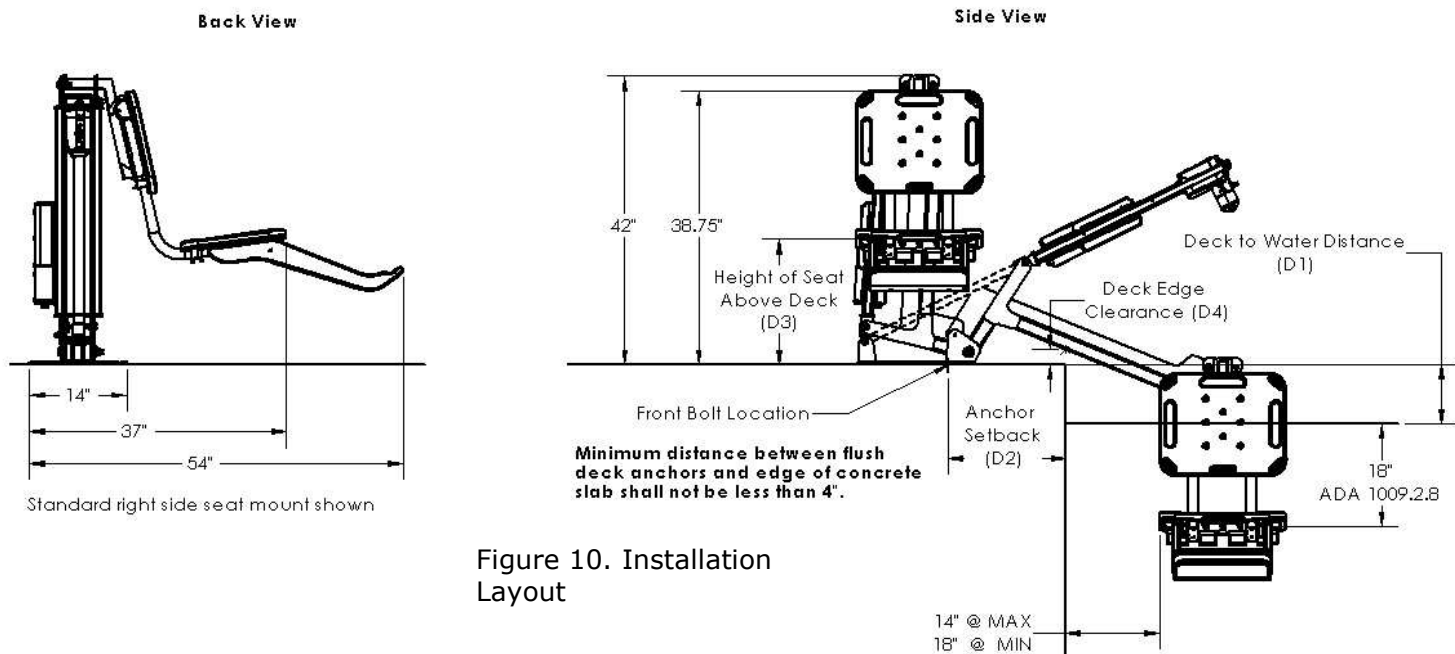

Figure 10. Installation Layout
The ML300 has a mast height of 42 in / 106.6 cm above the deck. It is intended to be used with simple pool gutter configurations having a deck to water distance of no more than 8 inches, see Table 1 and Figure 10 to determine if the ML300 will work on a specific pool. The maximum weight capacity for ML300 is 300 lb/136 kg. Only persons healthy enough for water activities should use the ML300. Users should consult with their physician to determine if water activities are appropriate for the user.
12. Attach seat assembly with bolt and thumbnut in appropriate hole. Refer to **Figure 10** and **Table 1** to determine the correct seat mounting hole to use. Also see **Figure 6**.
The optimal mounting distance for the deck front anchors is 12.5"/ 31.75 cm from the edge of the pool. The front anchors can be installed up to a maximum of 17"/43.18 cm from the edge of the pool, but the deck edge clearance decreases the farther the lift is installed from the pool edge. The setback distance from the pool edge to the front anchor locations varies depending upon pool geometry. The ML300 is designed to be used with simple pool edge designs with deck to water level differences of 0" to 8" maximum. Review **Figure 10** and **Table 1** to determine the correct seat mounting location and anchor installation setback for your pool.
3. Use **Figure 10** and **Table 1** to determine the proper location to install the lift, making certain that the front anchors are located the correct distance from the pool edge.
2. Use **Figure 10** and **Table 1** to determine the proper location to install the lift, making certain that the front anchors are located the correct distance from the pool edge.